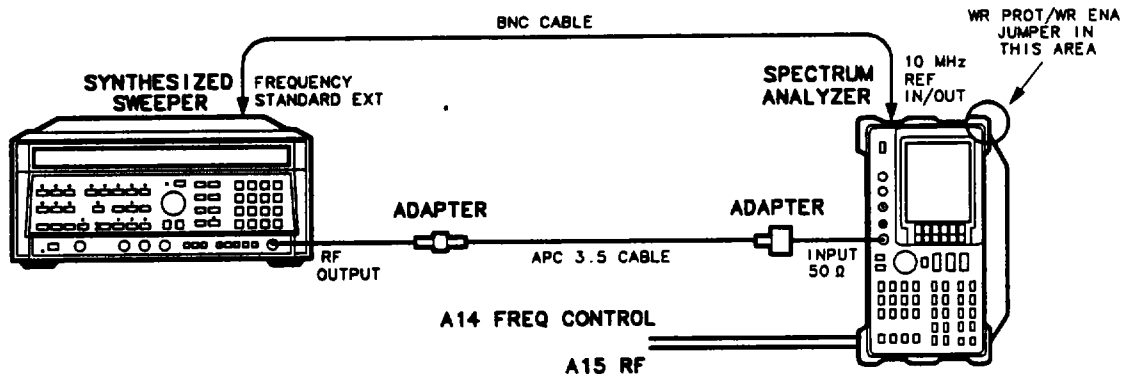

Figure 2-11. YTF Adjustment Setup
1. Set the HP 8562A **LINE** switch OFF and disconnect the line cord. Remove the analyzer's cover and connect the line cord. Connect the equipment as illustrated in Figure 2-11. Set the **LINE** switch ON.